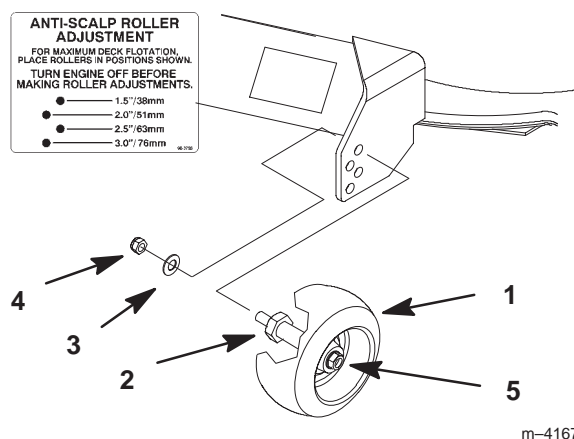

Figure 21
2. After adjusting height-of-cut remove nut and washer while holding stud with wrench (Fig. 21).
Note: Do not remove the wheel nut and washer (Fig. 21).
3. Select hole so gage wheel is positioned to the nearest corresponding height-of-cut desired (Fig. 21).
4. Reinstall the flange nut and spring disk. Torque to 40–45 ft-lbs. (54.2–61.0 N•m) (Fig. 21).